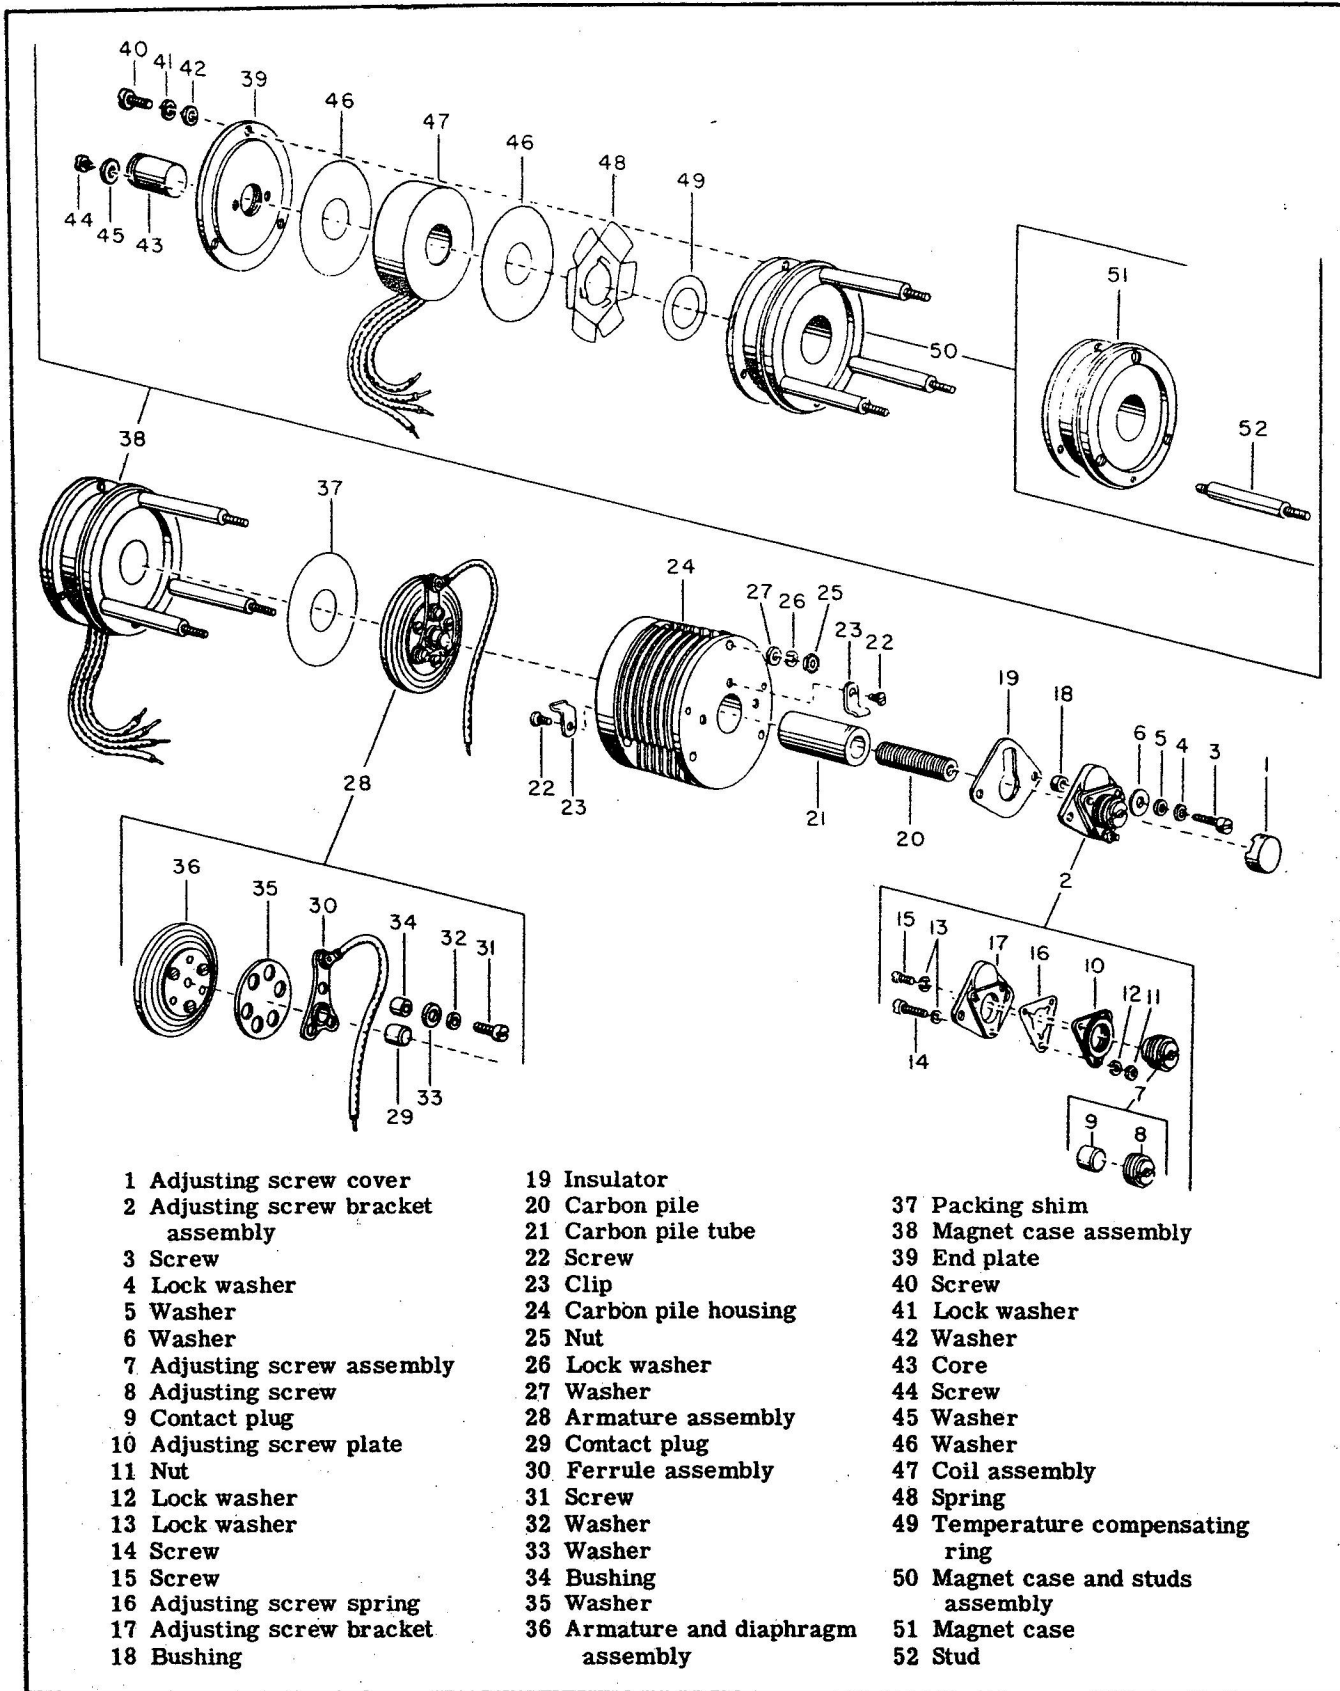
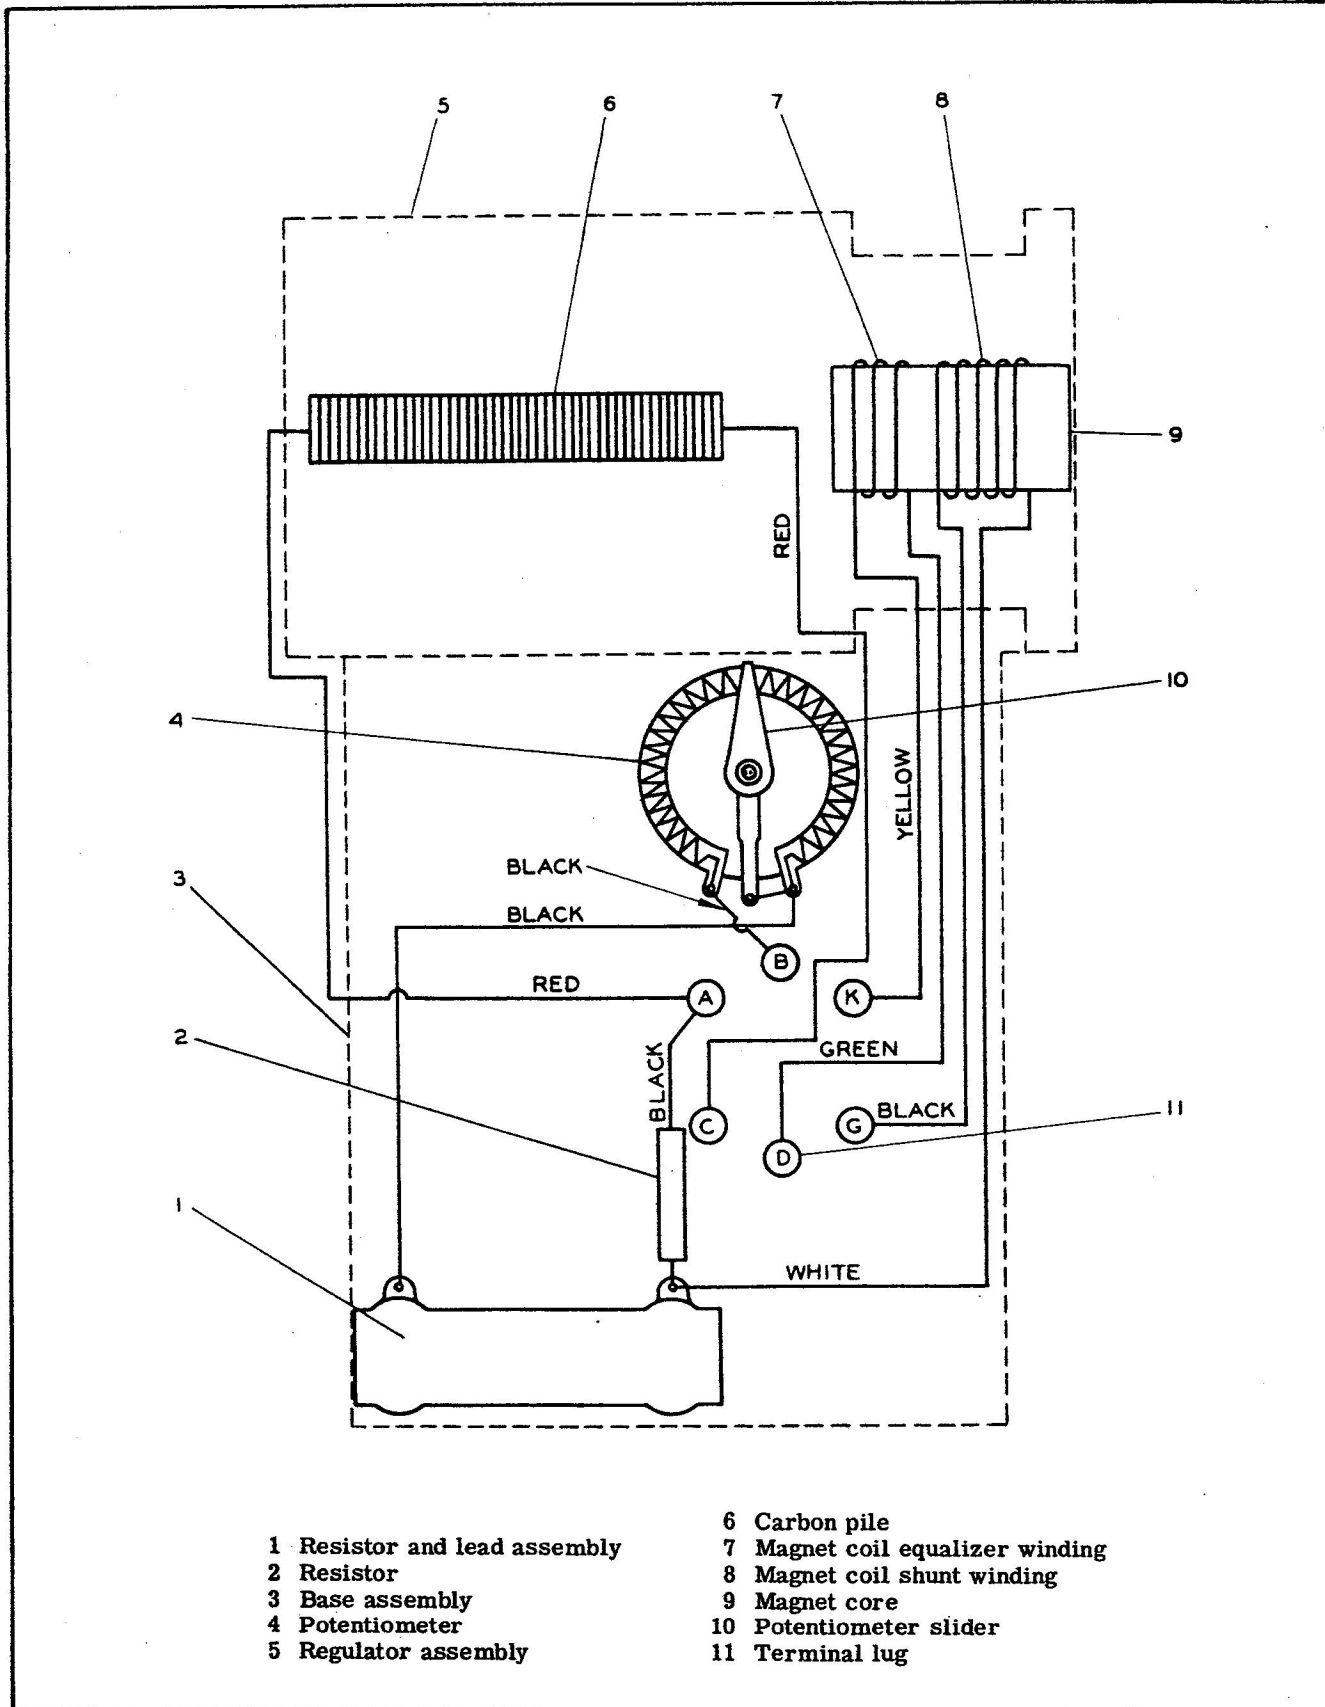
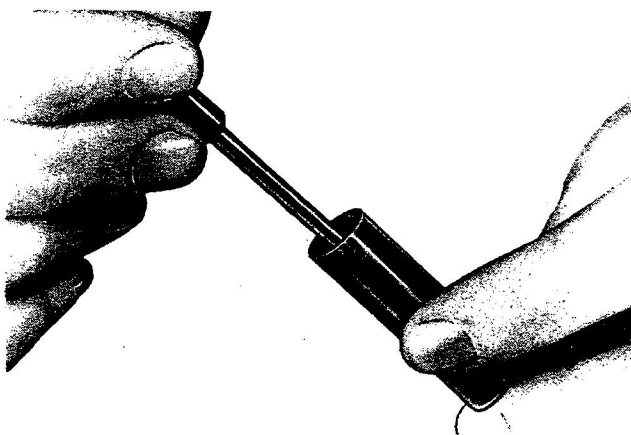
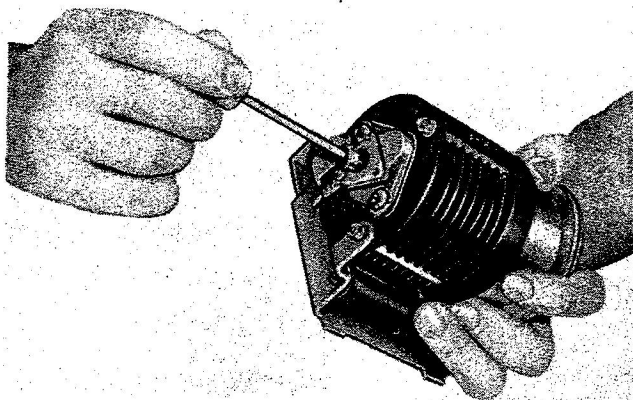

Figure 2-4. Exploded View - Carbon Pile Regulator Assembly - D-C Carbon Pile Voltage Regulator - Eclipse-Pioneer Type 1042-17-A
Figure 2-9. Schematic Internal Connection Diagram
Figure 2-10. Inserting Thin Rod Into Pile Container
Figure 2-11. Assembling Pile Into Regulator
a. Hold the regulator so that adjusting screw cover (1, figure 2-4) is uppermost. Insert a screwdriver blade into slot at bottom of cover and pry cover off adjusting screw (8).
b. Remove adjusting screw assembly (7, figure 2-4).
c. Insert a thin rod (less than 3/16-inch in diameter) into hole in carbon pile (20, figure 2-4). (See figure 2-2.) Invert regulator so that carbon discs fall onto rod. (See figure 2-3.)
d. Remove nut (11, figure 2-4) and lockwasher (12), and release lug (28, figure 2-1) of lead assembly (26) from carbon pile regulator assembly (1).
2-4. DISASSEMBLY OF CARBON PILE REGULATOR ASSEMBLY. (See figure 2-4.)
2-39. ARMATURE ASSEMBLY. If inspection reveals any faults, repair armature assembly as follows: Unscrew three screws (31, figure 2-4) and remove in turn from armature and diaphragm assembly (36), washers (32), washers (33), bushings (34), ferrule assembly (30), and washer (35). Replace any parts that are cracked, bent, broken, excessively corroded, or burned. If armature and diaphragm assembly (36) is faulty, replace entire armature assembly (28). Reassemble armature assembly (28) as follows: Coat screws (31) carefully with General Electric Company No. ZV-903 Purple Glyptal Lacquer. Replace washers (32 and 33) on screws (31). Position ferrule assembly (30) and washer (35) on armature and diaphragm assembly (36) so that three bushings (34) may be pressed into holes to receive screws. Make sure bushings (34) are aligned properly. Fasten armature assembly (28) together by tightening the screws (31).
**2-52. REASSEMBLY OF CARBON PILE REGULATOR ASSEMBLY.** (See figure 2-4.)
a. Screw three studs (52) into magnet case (51).
b. Place unthreaded end of core (43) through large hole in center of end plate (39), and partially screw core into end plate. Place washers (45) on two screws (44) and assemble two screws loosely into two holes near center of end plate (39).
c. Assemble washer (46), coil assembly (47), another washer (46), spring (48), and temperature compensating ring (49) on core (43). Be sure fingers of
e. Touch one terminal of a 110-volt a-c series test lamp circuit to screw (20) or nut (17). Touch other terminal, in turn, to each of two terminals of resistor (21). Make certain that free end of lead (22) is not touching anything. If test lamp lights, resistor is defective and must be replaced.
f. Solder unattached red lead assembly (26) and sleeved wire from resistor (23) to contact of "A" terminal lug of base assembly (30). (See figure 2-9.)
g. Position potentiometer and adjusting nut assembly (6) on base assembly (30) so that mounting holes
h. Hold base assembly (30) so that terminal of potentiometer assembly (9) located directly over "K" terminal lug of base assembly is on the left. Thread bare end of lead (22) through center terminal and to left terminal of potentiometer assembly (9). Solder lead (22) to these two terminals. (See figure 2-9.)
i. Solder one end of short black lead (29) to contact of "B" terminal lug of base assembly (30). Solder other end of this lead to remaining free terminal of potentiometer assembly (9). (See figure 2-9.)
j. Position carbon pile regulator assembly (1) directly over base assembly (30), so that carbon pile tube (21, figure 2-4) is parallel to resistor (21, figure 2-1) and slot in magnet case (51, figure 2-4) is adjacent to and facing base assembly (30, figure 2-1).
k. Solder end of bare wire from resistor (23) and end of white lead of coil assembly (47, figure 2-4) to remaining free terminal of resistor and lead assembly (16, figure 2-1).
l. Solder end of red lead from armature assembly (28, figure 2-4), which extends through hole in magnet case rim, to contact of "C" terminal lug on base assembly (30, figure 2-1). (See figure 2-9.)
m. Solder remaining magnet coil leads to contacts of terminal lugs of base assembly (30), as shown in figure 2-9.
n. Mount carbon pile regulator assembly (1) in base assembly (30) by inserting ends of two unsecured studs in two mounting holes in side of base assembly. The carbon pile housing should be above resistor and lead assembly (16).
o. Line up two remaining mounting holes in side of base assembly (30) with two remaining holes through end plate (39, figure 2-4) and magnet case (51). Assemble lock washer (3, figure 2-1) and washer (4) on each of two screws (5), and insert screws into holes and securely tighten them. Assemble and secure a washer (4), lock washer (3), and nut (2) on each of two studs protruding through base assembly (30).
p. Insert a screw (8) into each of two potentiometer mounting holes in base assembly (30) and through mounting holes in bracket and clip assembly (15). Assemble and tighten a nut (7) on each screw (8).
q. Remove nut (11, figure 2-4) and lock washer (12). Attach lug (28, figure 2-1) of red lead assembly (26) to long screw (14, figure 2-4) with lock washer (12) and nut (11).
r. Press silver-coated end of a new contact plug (9, figure 2-4) into adjusting screw (8). Use a clean
s. Assemble a new carbon pile (20, figure 2-4) into pile tube (21), as follows: Slide a rod (less than 2/16-inch in diameter) through pile while it is still in its container. (See figure 2-10.) Then invert container and allow carbon discs to slide out onto rod. Hold carbon pile regulator assembly so that tube axis is horizontal and insert rod carrying discs through adjusting screw bracket and into tube. (See figure 2-3.) Turn housing to a vertical position so that discs can fall off rod and into tube. (See figure 2-11.) Carefully remove rod from tube.
t. Immediately screw pile adjusting screw assembly (7, figure 2-4) into adjusting screw bracket assembly (2) so that carbon discs cannot fall out of tube. Tighten adjusting screw slowly until resistance to further turning is felt.
u. Slip adjusting screw cover (1, figure 2-4) over pile adjusting screw (8).